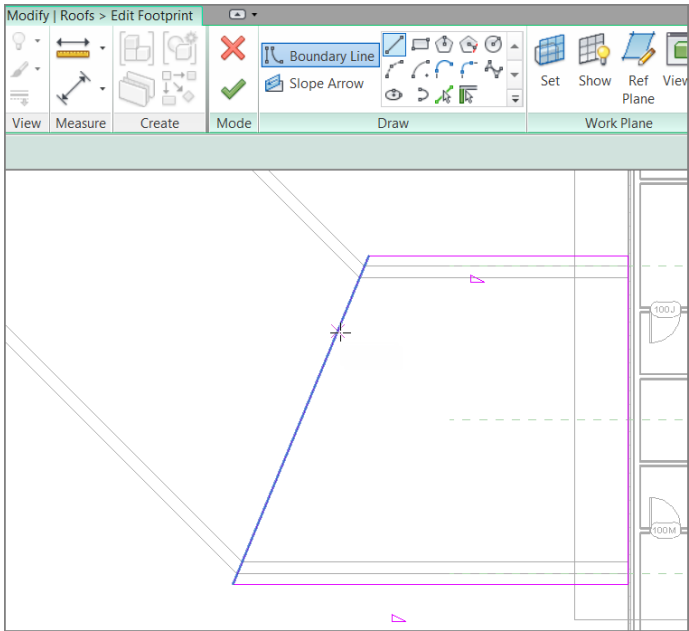

FIGURE 7.28: Draw a diagonal line as shown.
5. Draw a diagonal line between the endpoints of the two lines, as shown in Figure 7.28. Make sure the Defines Slope button isn't selected.